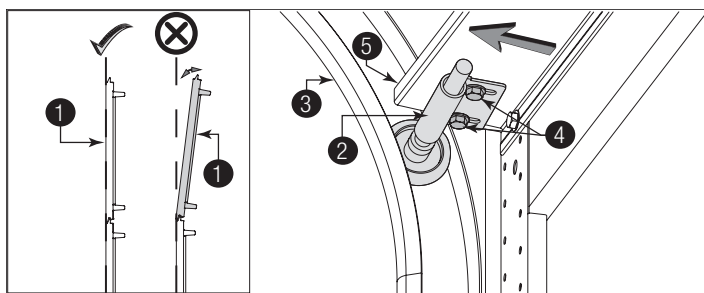

Figure 36, Left Side Shown
**See Figure 36 for the following steps.**